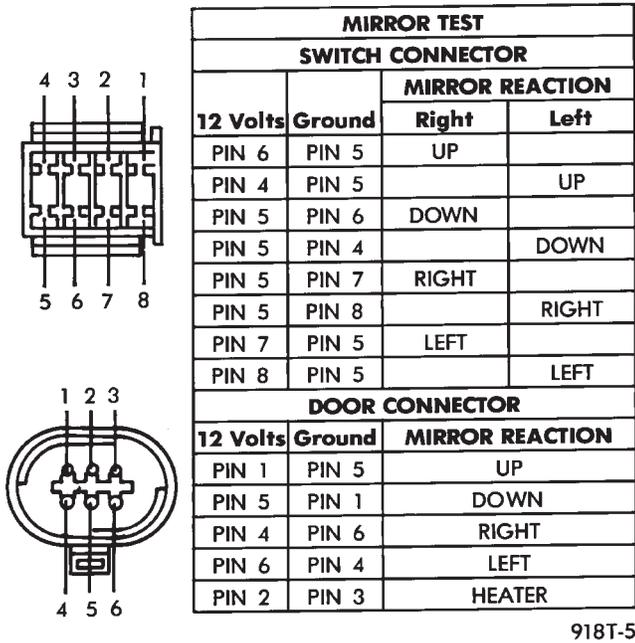

Fig. 5 MIRROR TEST — AG and AJ Bodies
- (4) If results shown in the Fig. 5, 6 and 7 are not obtained, replace the switch.